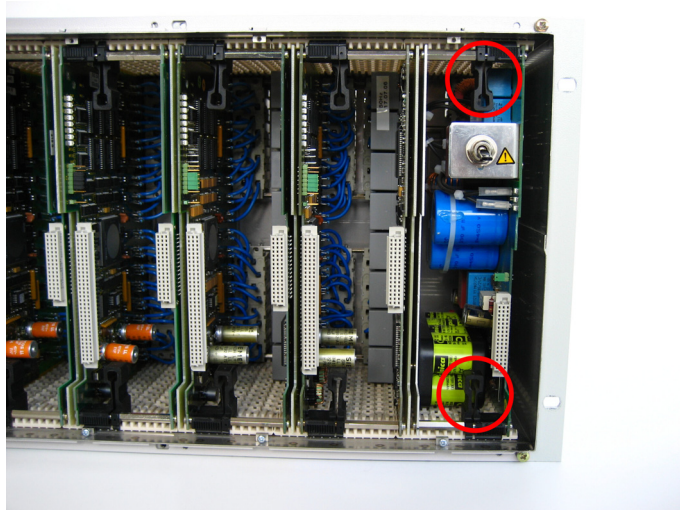

Figure 1-15 Deblocking the power supply module
- ❑ Detach the power supply module by pushing the black locking levers right until the levers unlatch from the PCB. Flip both locking levers forward simultaneously (approx. 45°) until the levers snap into the second position on the PCB (see Figure 1-15).